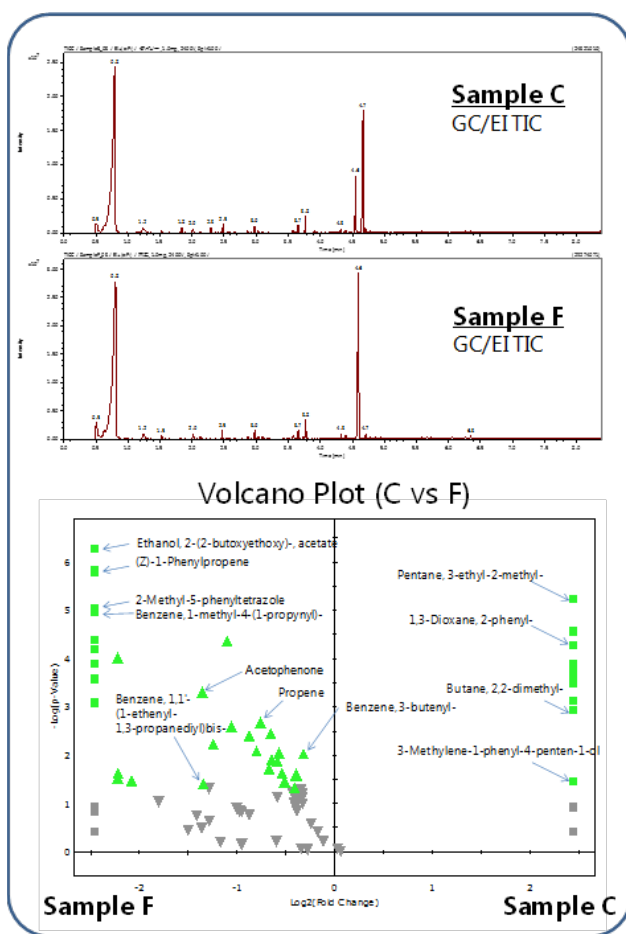
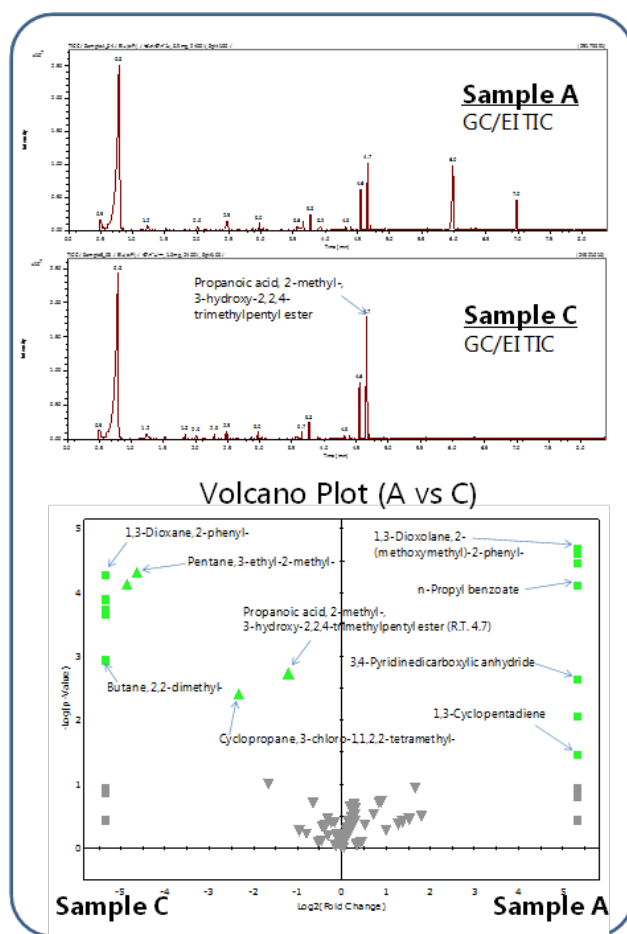

Fig 1. TIC chromatograms and Volcano Plot results of samples C and F
Fig 2. TIC chromatograms and Volcano Plot results of samples A and C
- In Figures 1 and 2, points that exceed 5% ($p=0.05$), a level generally considered significant, are shown in green.
Figure 1 shows TIC chromatograms and Volcano Plot results for samples C and F. While samples C and F share many components, sample F contains these shared components in larger quantities. The data shows that samples C and F, though made of similar ingredients, contain other components including additives in different quantities. Figure 2 shows TIC chromatograms and Volcano Plot results of samples A and C. Samples A and C have fewer shared components, featuring many components unique to each.